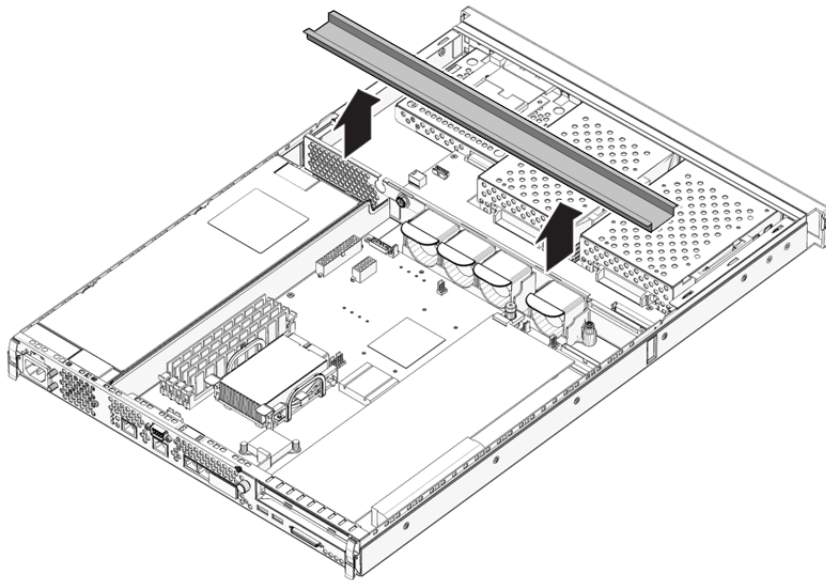

FIGURE 1-5 Removing the U-Channel
4. Unclip the U-channel that runs across the server and remove it (FIGURE 1-5).